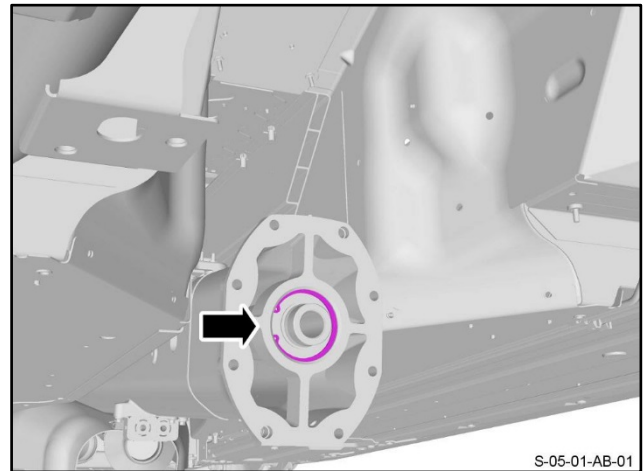

Figure 28
53. Remove the circlip that keeps the propeller shaft in the torque tube (refer Figure 28).